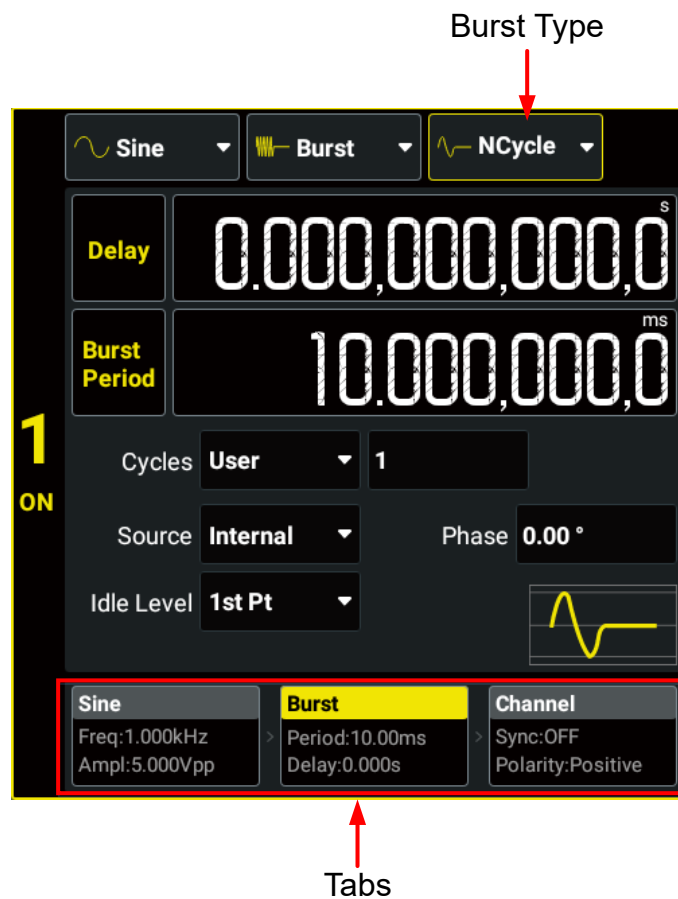

Figure 8.1 Burst Setting Interface
DG800 Pro can output two types of bursts: N-Cycle Burst (default) and Gated Burst. In the Burst Setting Interface (*Figure 8.1*), click or tap the "Burst Type" drop-down button to select "NCycle" or "Gated". The table below illustrates the trigger sources and waveform parameters available for the two burst types.
- **Manual:** Manual trigger is only available for N-Cycle Burst mode. When manual trigger is selected, click or tap the manual trigger key  in *Figure 8.1* interface or press the front-panel  key to initiate a burst output immediately. If the output of the corresponding channel is not enabled, the trigger will be ignored.